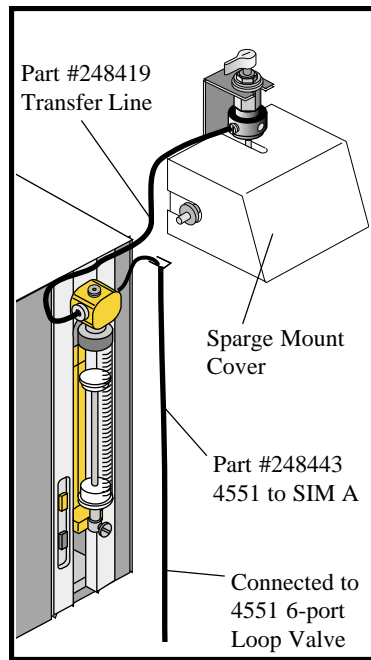

Figure 5.2. Single SIM (SIM A) Connections
2. If installing only SIM A, connect transfer lines following the diagram and part numbers shown in Figure 5.2.
2. Disconnect all plumbing from SIM A (see Figure 5.2).
10. Connect the transfer lines following the diagram and part numbers in Figure 5.2. Reconnect the ribbon cable.